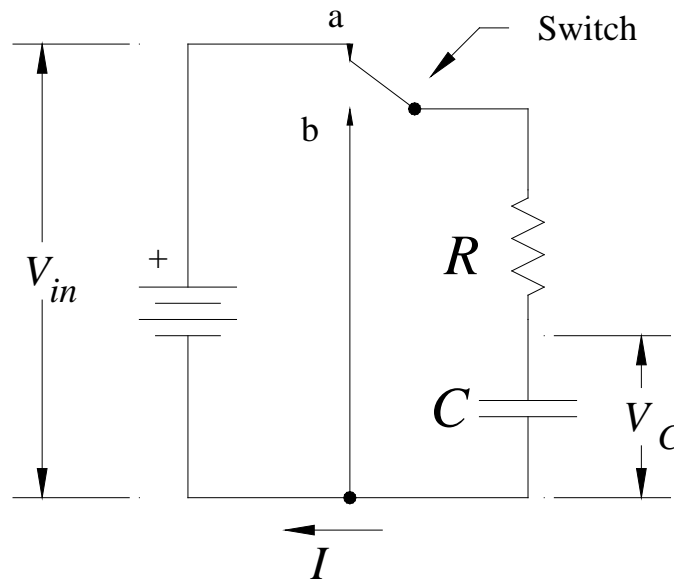

Figure 1 Diagram of a circuit used to charge and discharge a capacitor.
A **capacitor** is a device that can store electrical energy. It basically consists of two conductors separated by an insulator. When a capacitor is connected in a DC circuit, equal and opposite charges build up on the two conducting plates, leading to a potential difference (V) between the plates. For a capacitor the potential V is proportional to the charge q and inversely proportional to the capacitance C . Algebraically, this can be written as $V = q/C$. Figure 1 is a diagram of a circuit that can be used to charge and discharge a capacitor through a resistor. When the switch is in position **a**, the capacitor is connected in series with the resistor R and the battery. Current will flow into the capacitor until its voltage equals that of the battery or the switch is thrown. The voltage on the capacitor after the switch is moved to position **a** is given by: